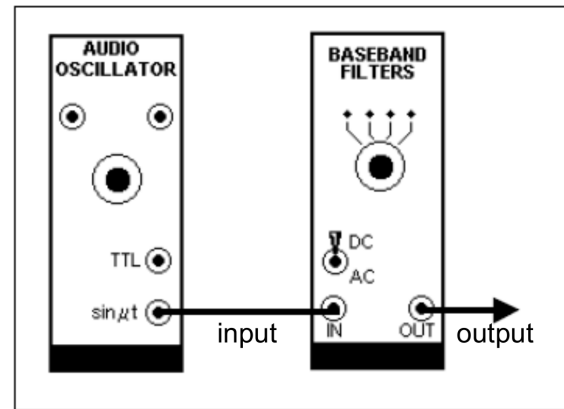

Figure 9: TIMS model of Figure 8
1. Connect the **Baseband Channel Filters** input to a yellow output socket on the **Audio Oscillator**, as shown in Figure 9, so that the input is $u(t) = A \sin(\omega t)$.